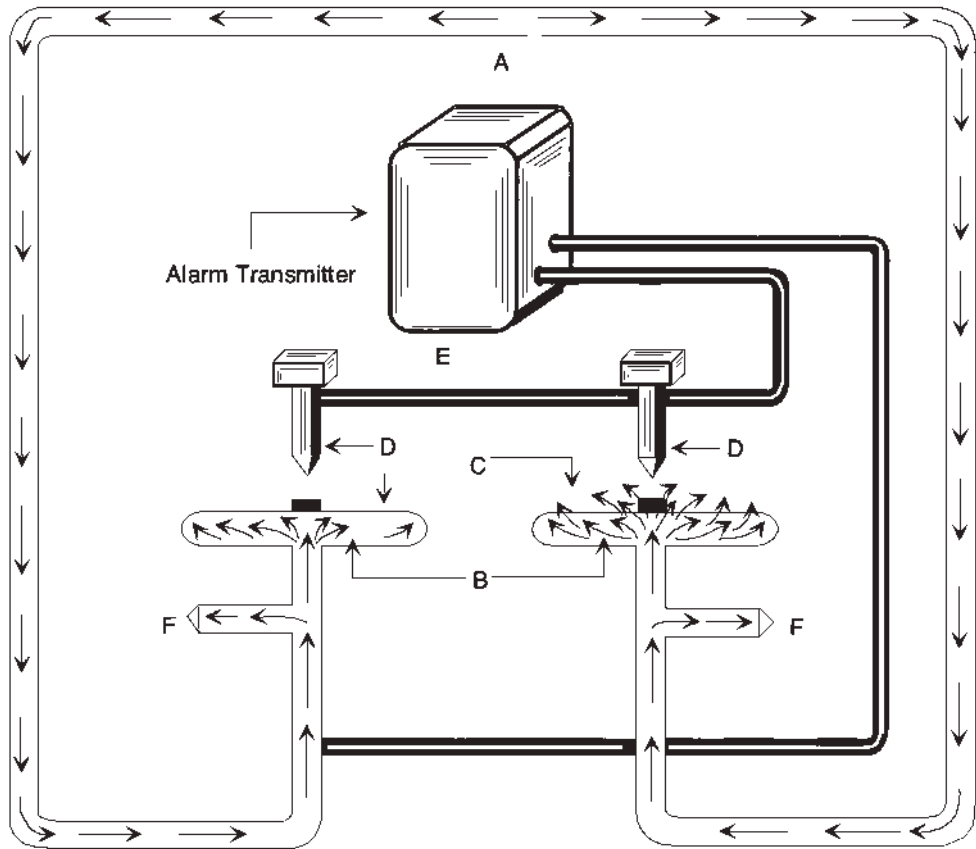

Figure 5.19 Pneumatic rate-of-rise tubing.
*Pneumatic rate-of-rise tubing:* A line-type sensor of small-diameter tubing, usually copper, which is installed on the ceiling or high on the walls throughout the protected area. The tubing is terminated in a detector unit containing diaphragms and associated contacts set to actuate at a predetermined pressure. The system is sealed, except for calibrated vents that compensate for normal changes in ambient temperature (Fig. 5.19).
In referring to Fig. 5.19, note that the copper tubing (A) is fastened to ceilings or walls in a continuous loop and terminates at both ends in chambers (B)